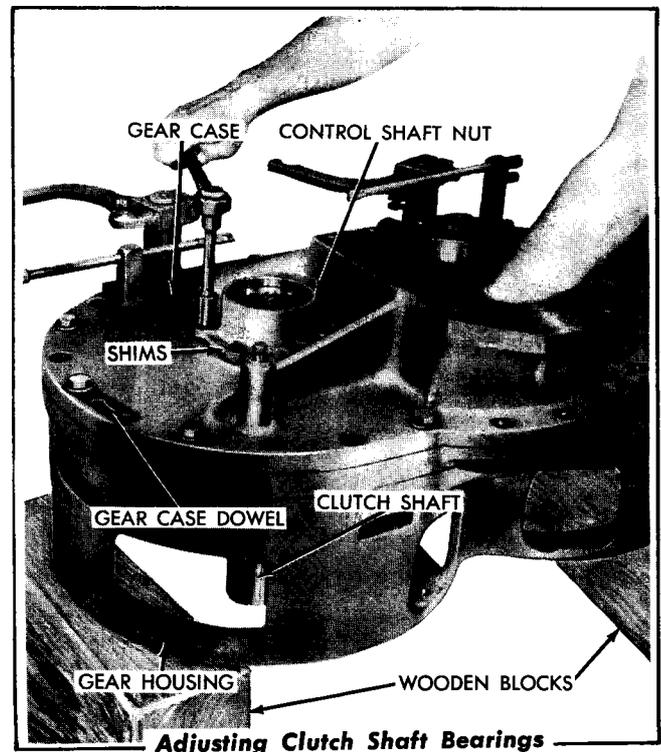

FIG. 41
5. With the gear housing placed on blocks as shown in Fig. 41, insert one of the clutch shafts (with clutch shaft gear and bearing cones) into position in the drum sleeve in the gear housing. **NOTE:** Do not install both clutch shafts at this time.
7. Place the gear case in position on the gear housing and install the two gear case dowels (Fig. 41). Install and tighten 12 of the attaching capscrews. Adjust the clutch shaft bearings as follows:
- a. The clutch shaft bearings are properly adjusted when they have .002" to .003" pre-load. Install the control shaft nut (Fig. 41) with the original shim pack and tighten the attaching capscrews.
11. Clean and coat the machined surfaces (mating surfaces) of the gear housing and the gear case with liquid-type gasket cement. Lower the gear case (with components) into position on the gear housing. Install the two gear case dowels (Fig. 41). Place a dowel retainer plate (Fig. 31) in position over each dowel and install the 28 capscrews and lockwashers to attach the gear case to the gear housing. Tighten the capscrews securely.